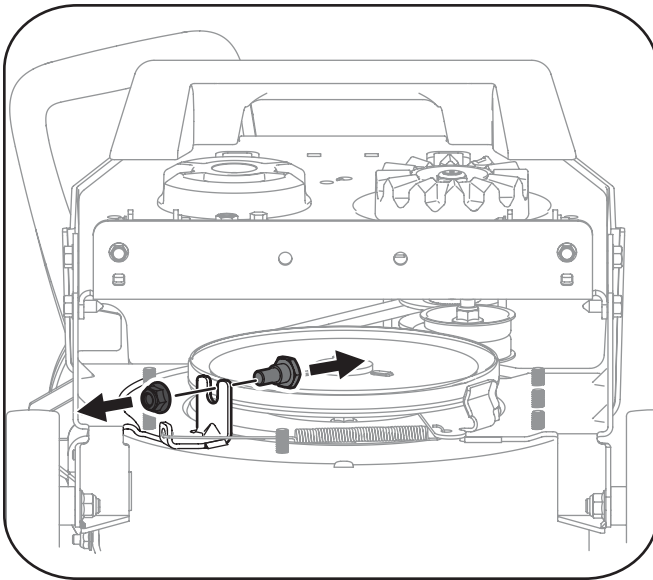

Figure 7-5
- Remove the belt keeping should bolt and lock nut and retain for later installation. See Figure 7-5.